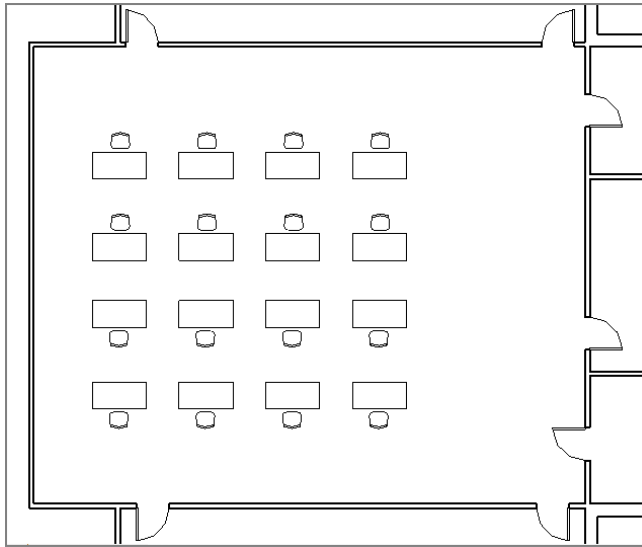

FIGURE 1.37 Complete the finished layout on your own.
17. Use any combination of Copy, Array, and Rotate to complete the layout of the desk-chair groups, as shown in Figure 1.37.